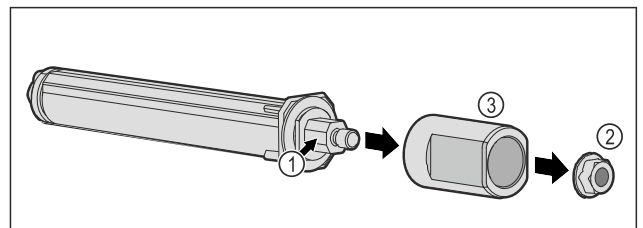

Fig. 46
- ▶ Do not dismantle the door locking system Fig. 46 (1).
- ▶ Remove the nut Fig. 46 (2).
- ▶ Remove the sleeve Fig. 46 (3).